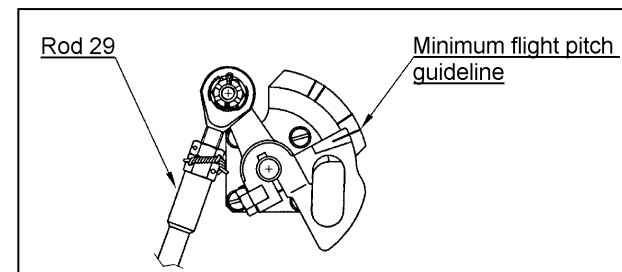

FIGURE 12-25
- (6) Verify for both governors the dimension „B“, which changes (\pm) 0,35 mm (.014 inch) when half a turn is used and (\pm) 0,7 mm (0,028 inch) when 1 turn is used. If you will find a deviation, adjust the dimension "B" to the calculated value. For fine adjustment use 1/3 or 1/4 turn of the stop **58**.
- (7) Hold the screw in adjusted position with suitable wrench, use the second wrench to tighten the securing nut and again verify the dimension "B" for both governors.
- (8) This adjustment of the stop **58** disturbs alignment of guideline on the cam lever with the governor scale.
- (9) Change lever **29** length (figure 12-25).
- (10) Vázacím drátem a plombou zajistíte dorazy 58 obou regulátorů.
- (11) Seřízení zapište do atestu regulátorů.